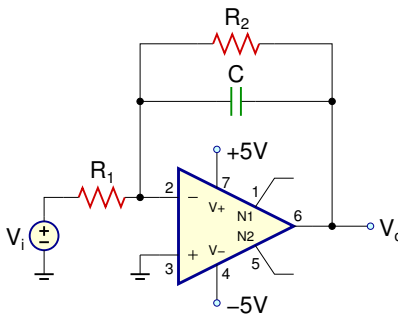

Figure 2: Lossy integrator circuit
Notice that the gain  $V_o/V_i$  is theoretically infinite at DC ( $s = 0$ ), hence any small DC signal at the input will saturate the opamp output over time. In a practical integrator circuit, a large resistor in parallel with the capacitor is required to prevent the capacitor from storing charge due to offset currents and voltages at the input. This configuration is known as “lossy” integrator or a first-order lowpass circuit, which is shown in Fig. 2. The output voltage is now given by the following expression:
1. For the lossy integrator in Fig. 2, derive the time-domain equation for the output in terms of the input.
1. Draw the schematics for the lossy integrator in Fig. 2 with the calculated component values.
1. Build the lossy integrator in Fig. 2 with the simulated component values.
1. Build the circuits in Figs. 2, 4, 5 and 6 on your breadboard, and bring it to your lab session
4. For the lossy integrator in Fig. 2: